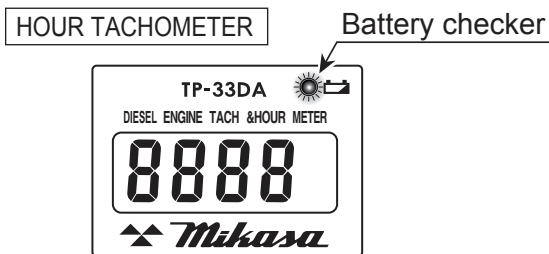

Figure 32. Battery Check
1. Check the battery checker on the hour tachometer (Figure 32).